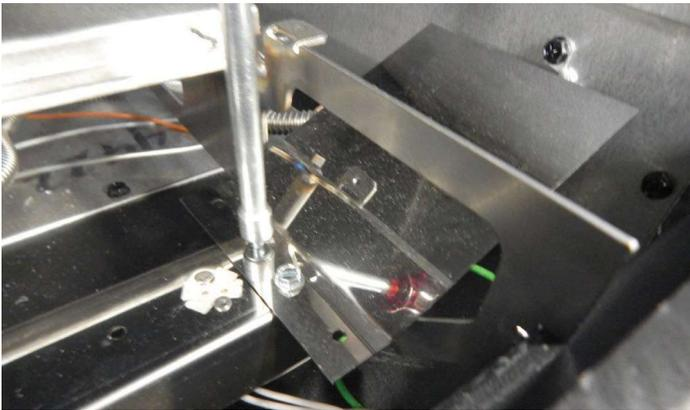

Figure 10
14. Attach two End Deflectors (one at each end of the Light bracket assembly) with (2) # 8 X 1/4" Screws each. See Figure 10.